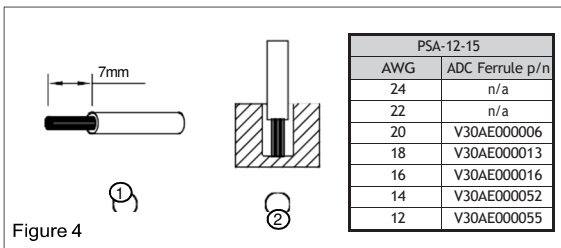

Figure 4
You can use flexible (stranded wire) or solid wire size 26-12 AWG. Torque to 0.392 N·m (3.5 lb in). To secure reliable and shock proof connections, the stripping length should be 7mm [0.28 in] (see Fig. 4 (1)). Please ensure that wires are fully inserted into the connecting terminals as shown in Fig. 4 (2).